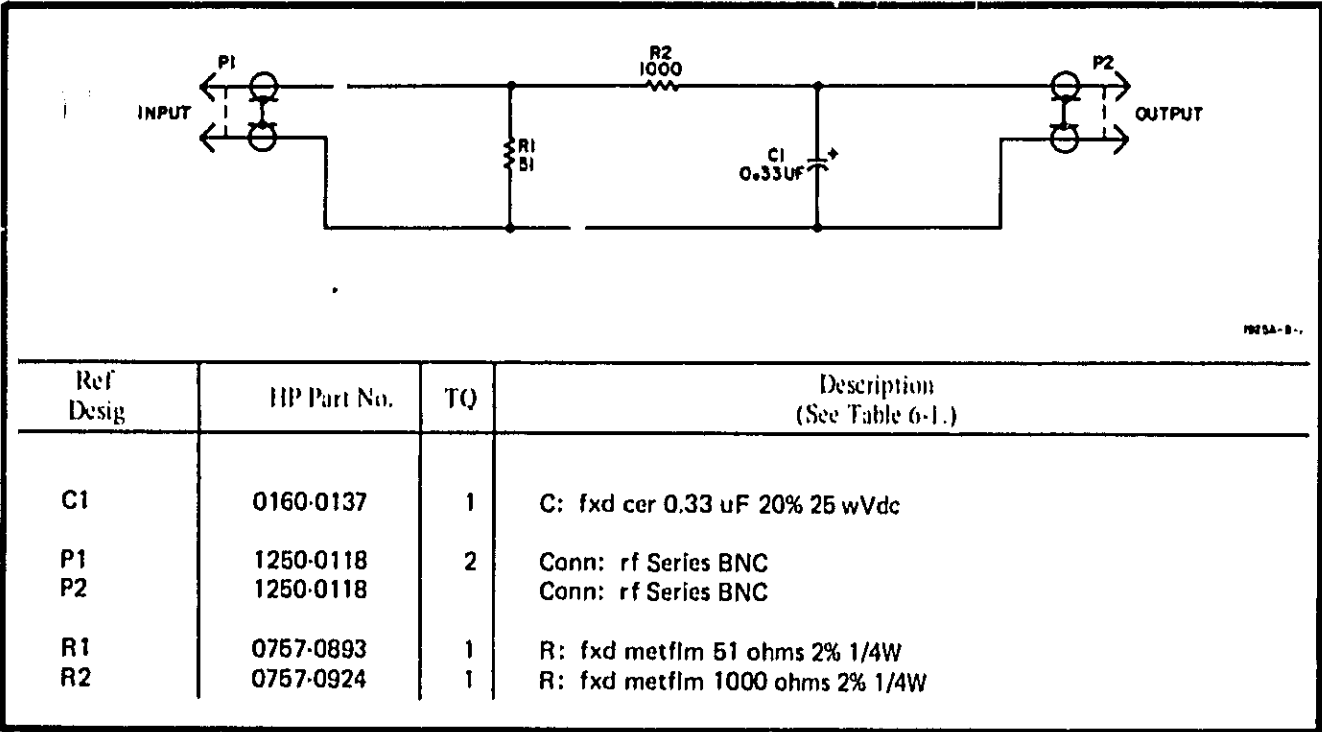

Figure 5-5. Test Filter
a. Construct a 0.3 millisecond filter as shown in Figure 5-5.